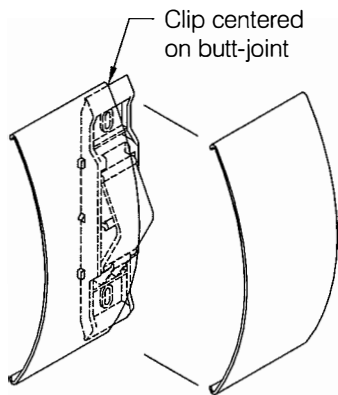

fig 7
- At each WGV-7 cover butt-joint, see **fig 7**
- Step 8:** Measure between accessories, including optional vertical accents where used, and cut the WGV-7 vinyl cover. Miter cut the WGV-7 for all special angle corners not accommodated by the molded accessories. Install a Red-E-Clip[®] retainer centered at each WGV-7 butt-joint location, see **fig 7**.